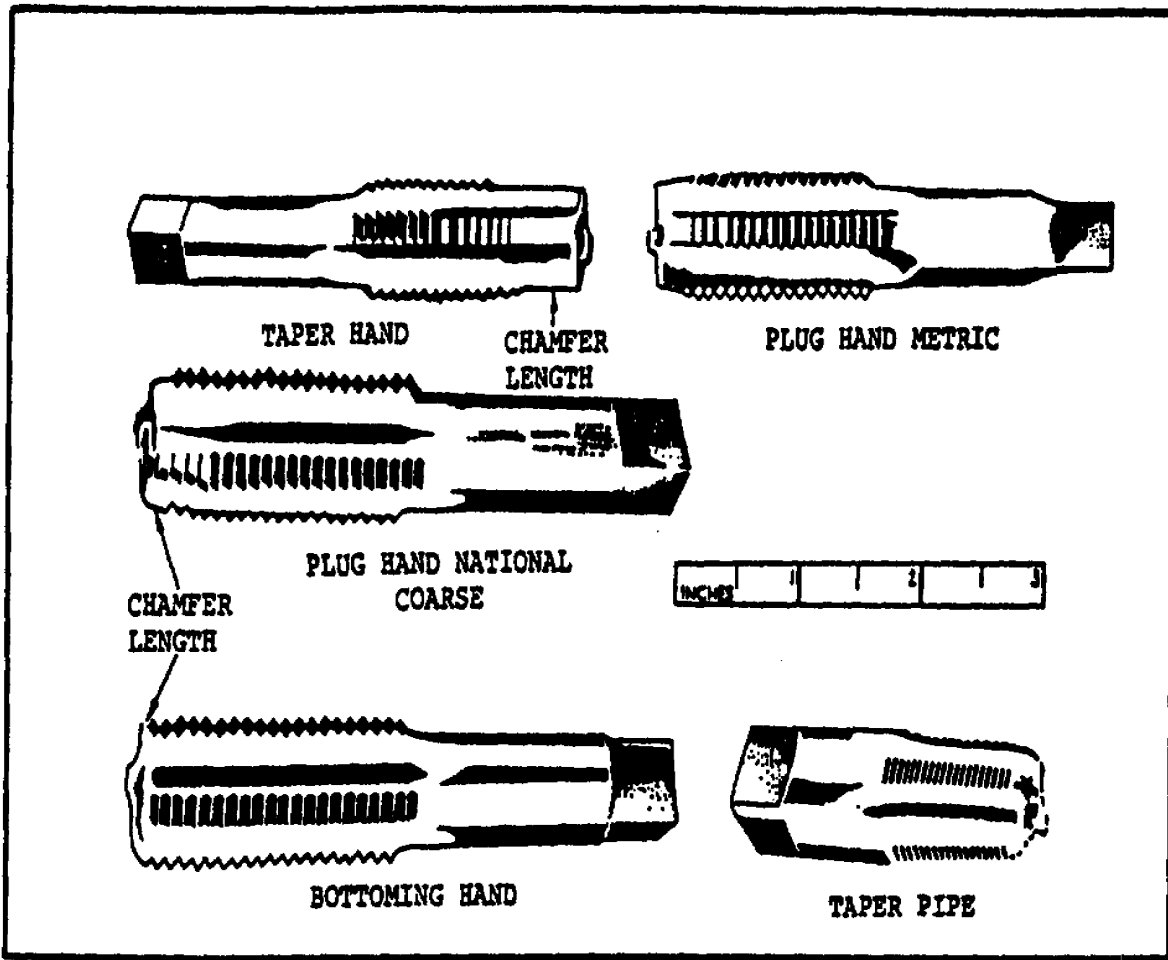
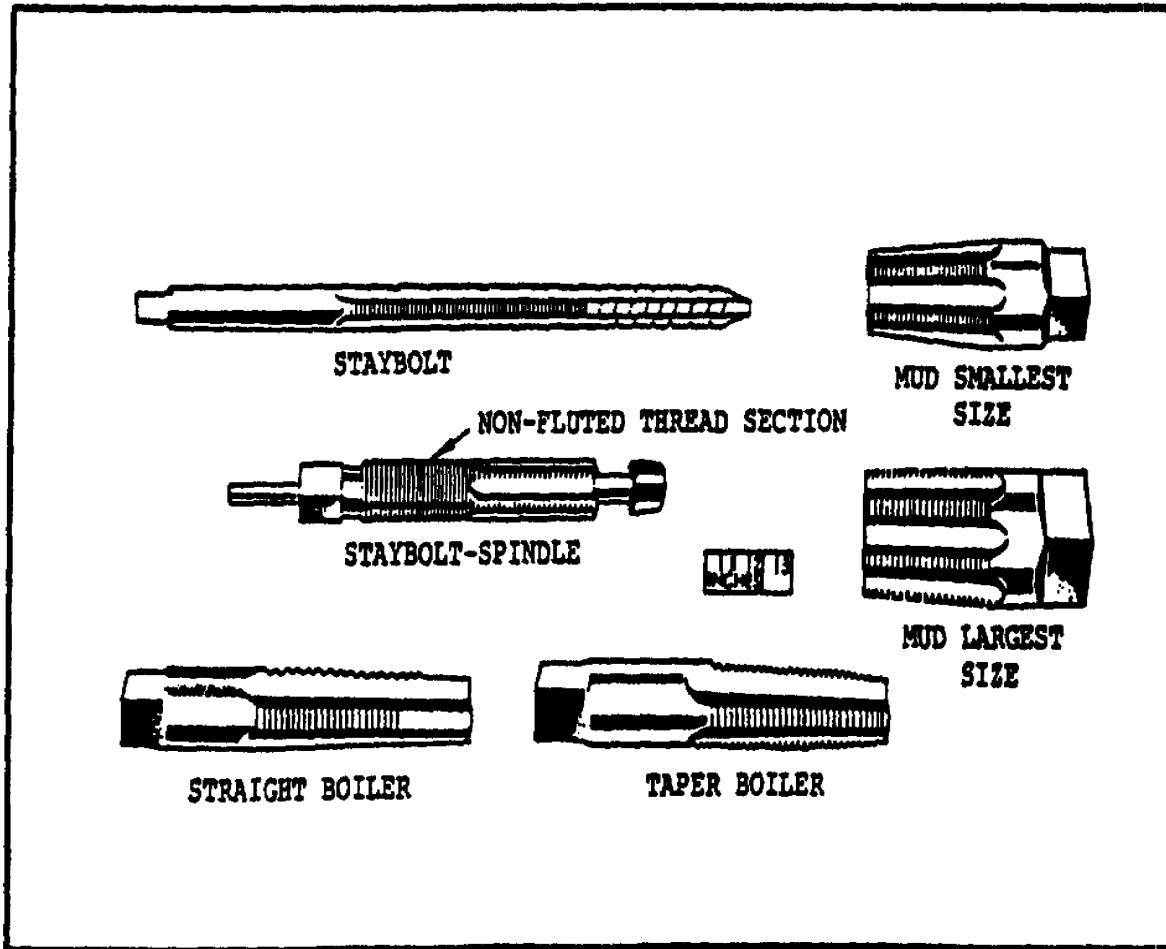

FIGURE 126. TYPES OF COMMON TAPS.
FIGURE 127. SPECIAL PURPOSE TAPS.
b. *Types of Taps.* There are several types of taps issued by the Army Ordnance Supply System. The most common types are the taper, plug, bottoming, and pipe taps (figure 126). Special purpose taps (figure 127) such as mud or washout taps, boiler taps, and staybolt taps are also discussed in this subparagraph.